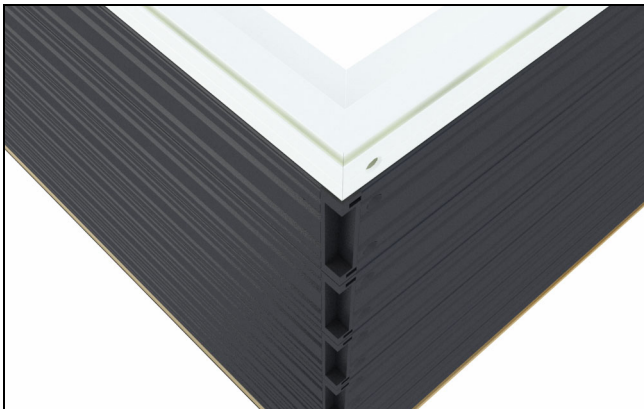

Figure 59
2. Align side jamb to head jamb. See figure 59.